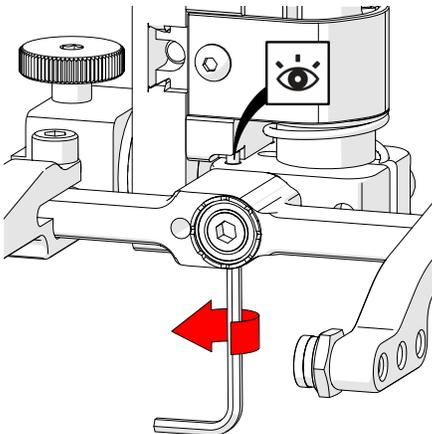

Fig. 65 - Raise opposite 90° stop post
8. Raise the stop post on the opposite side until the side of the post contacts the 90° stop point on the probe holder's base (Fig. 65).